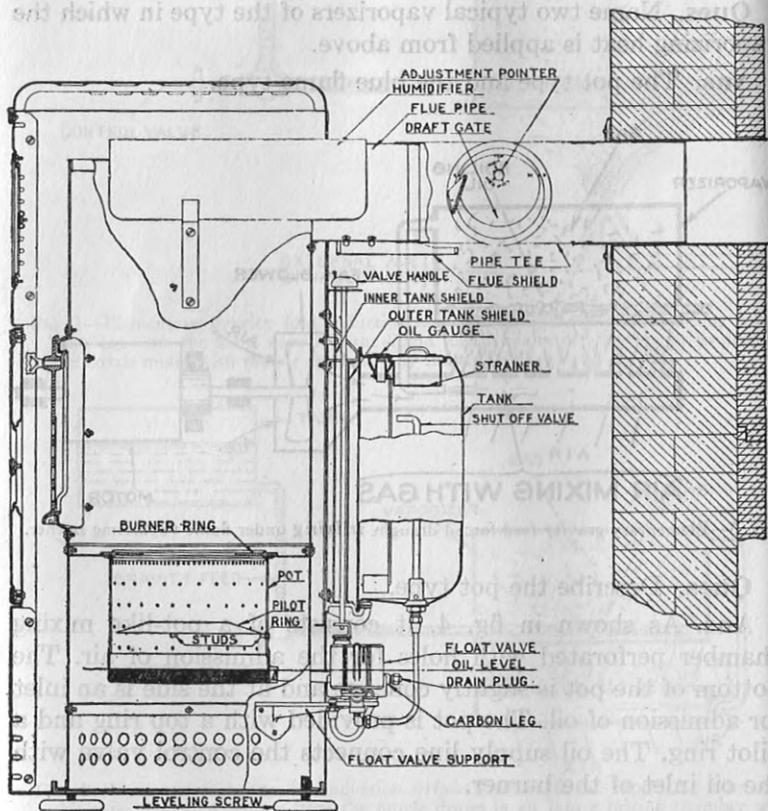

Fig. 4—Typical pot burner installation illustrating also low chimney connection and gravity oil feed with float valve. Note no manual damper is used.
**Ans.** As shown in fig. 4, it consists of a pot-like mixing chamber perforated with holes for the admission of air. The bottom of the pot is slightly concave and at the side is an inlet for admission of oil. The pot is provided with a top ring and a pilot ring. The oil supply line connects the control valve with the oil inlet of the burner.